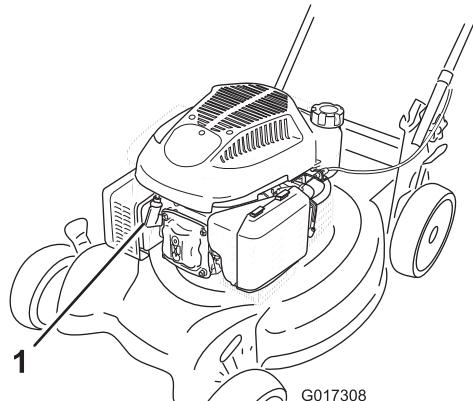

Figure 21
- Disconnect the spark-plug wire from the spark plug (Figure 21) before performing any maintenance procedure.